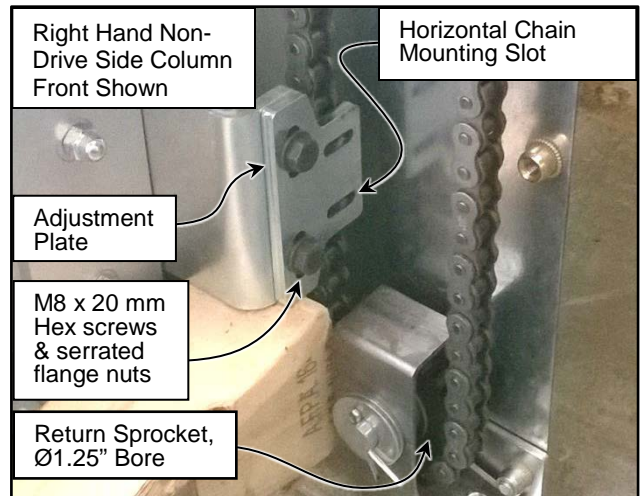

Figure 53
5. Reattach the adjustment plate to the bottom bar end bracket centering it in the slots as shown. Identify and mark the two pair of chain links which most closely match up to the horizontal chain mounting slots (we suggest using a white paint stick or equal). Then remove the adjustment plate from the bottom bar. (See Figure 53)